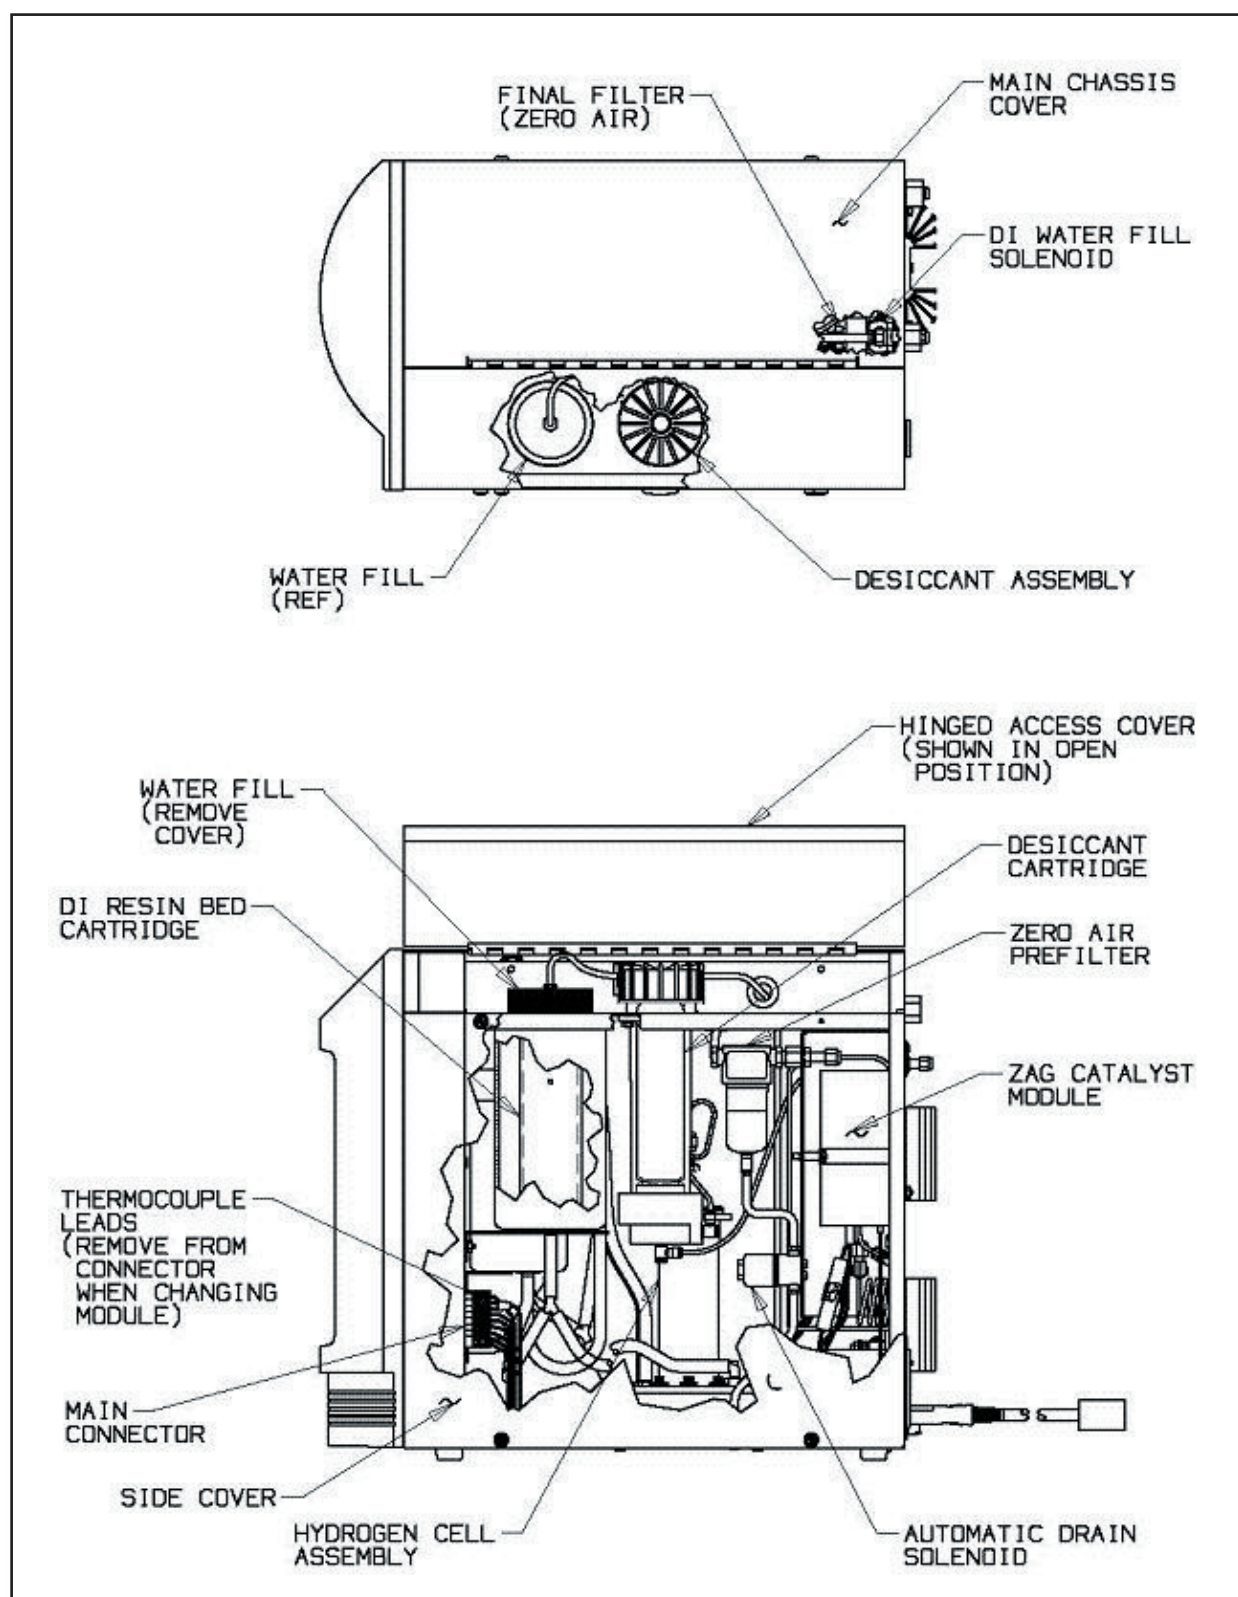
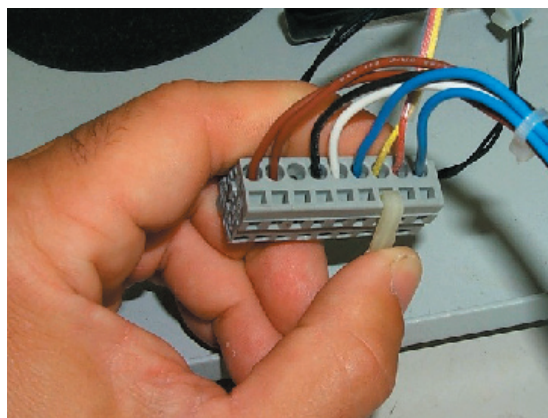

Figure 12 - FID Gas Station, Exploded View
Figure 15 - Thermocouple wire
The primary maintenance tasks required by the Parker Balston FID 1000 and FID 2500 are: changing the prefilter cartridge (annually), changing the sintered metal filter assembly (annually), and replacing the catalyst module (2 years). Each of these components are readily accessible by removing the side panel of the generator. A summary of the replacement part numbers and recommended Service frequency is shown at the end of the Maintenance section. See Figure 12 for the locations of the prefilter, final filter, and catalyst module.
- Remove Main chassis cover. There are 2 screws on the left side and 2 under the hinged cover of the generator (figure 12).
- Remove Right-side cover. There are 4 screws on the right side of the unit. (figure 12).
- Disconnect Catalyst Module connector located on right side of the unit (figure 12 and 13).
- Locate main connector (figure 12). Using Wago tool, included in replacement module kit, insert tool into main connector as shown in figure 15. Depress tool and remove yellow wire from position 7 of main connector. Similarly remove brown wire from position 8.